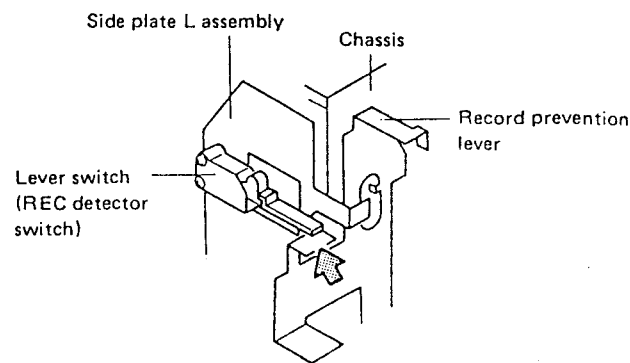

Fig. 12-3 REC detector switch adjustment
2. Adjust the record prevention lever (shown by the arrow in Fig. 12-3) by bending so that the lever switch is on when a half without tabs is loaded, and off when a half with tabs is loaded.